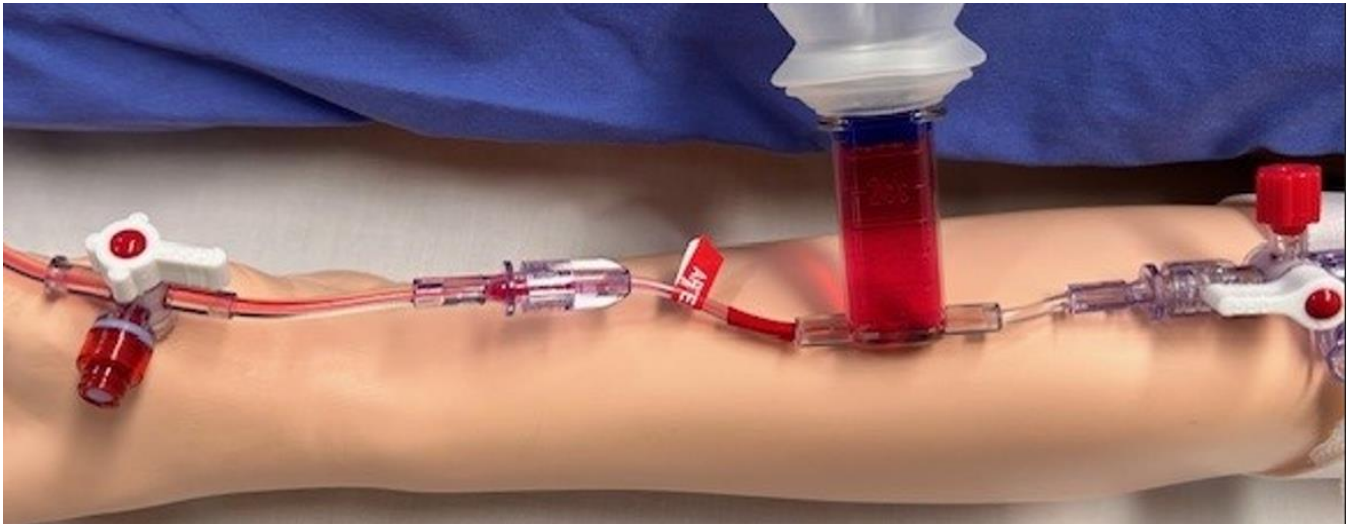

Figure 8.
3. Turn the three-way tap closest to the 'insertion site' toward the transducer. This 'locks' the blood mixed with saline between the sample port and the transducer. Swab the sample port. Push the syringe or vacutainer adaptor into the sample port. (see Figure 8 below)